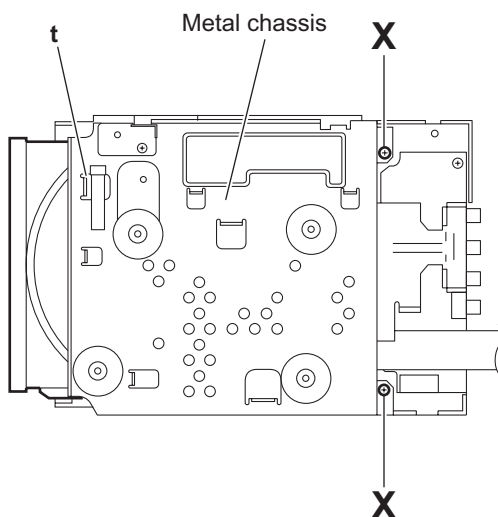

Fig.26
- (2) From the top side of the main body, remove the two screws **X** and take out the metal chassis. (See Fig.26.)